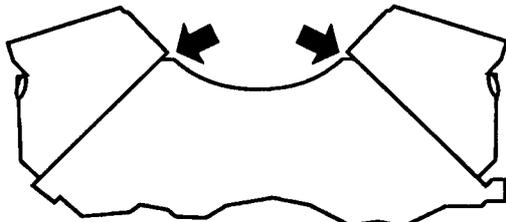

Fig.5 Sealant application points - cylinder head 'notches'.
1. Degrease the 2 areas at each end of the cylinder head where sealant is to be applied, i.e. the 'notches created at the meeting points of the cylinder heads and block (fig.5, arrowed).